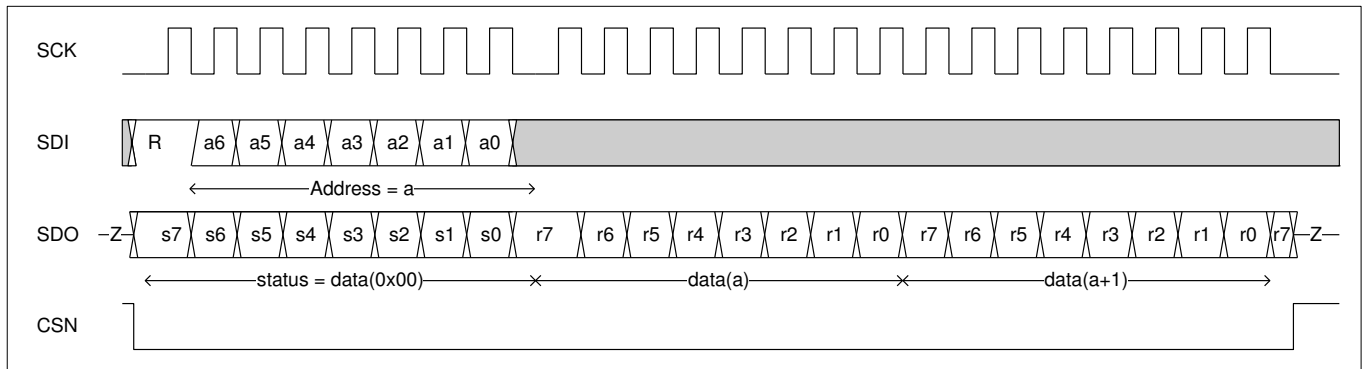

Figure 6: Multi-read SPI transaction
- Read one or more consecutive register(s) and the status byte (register 0x00). See Figure 6 below.